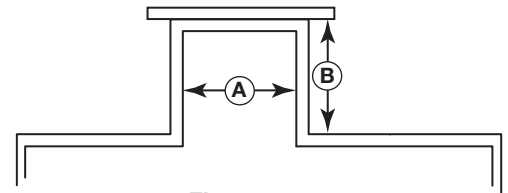

Figure 4
1. Nozzle must be 2" (50 mm) diameter (A) or larger.
2. Ratio of diameter (A) to length (B) is 1:1 or greater. Any ratio < 1:1 (e.g., a 2" x 6" nozzle = 1:3) can be used but may require a BLOCKING DISTANCE and/or SENSITIVITY adjustment. See Figure 4.